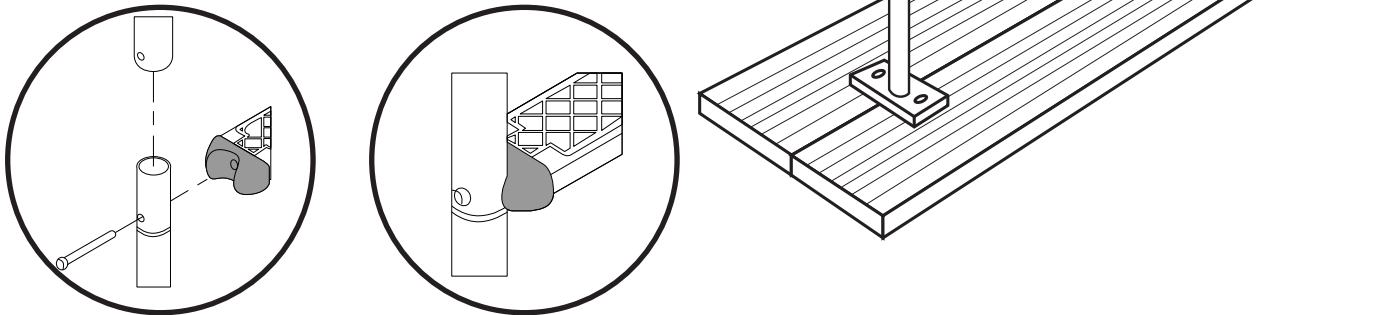
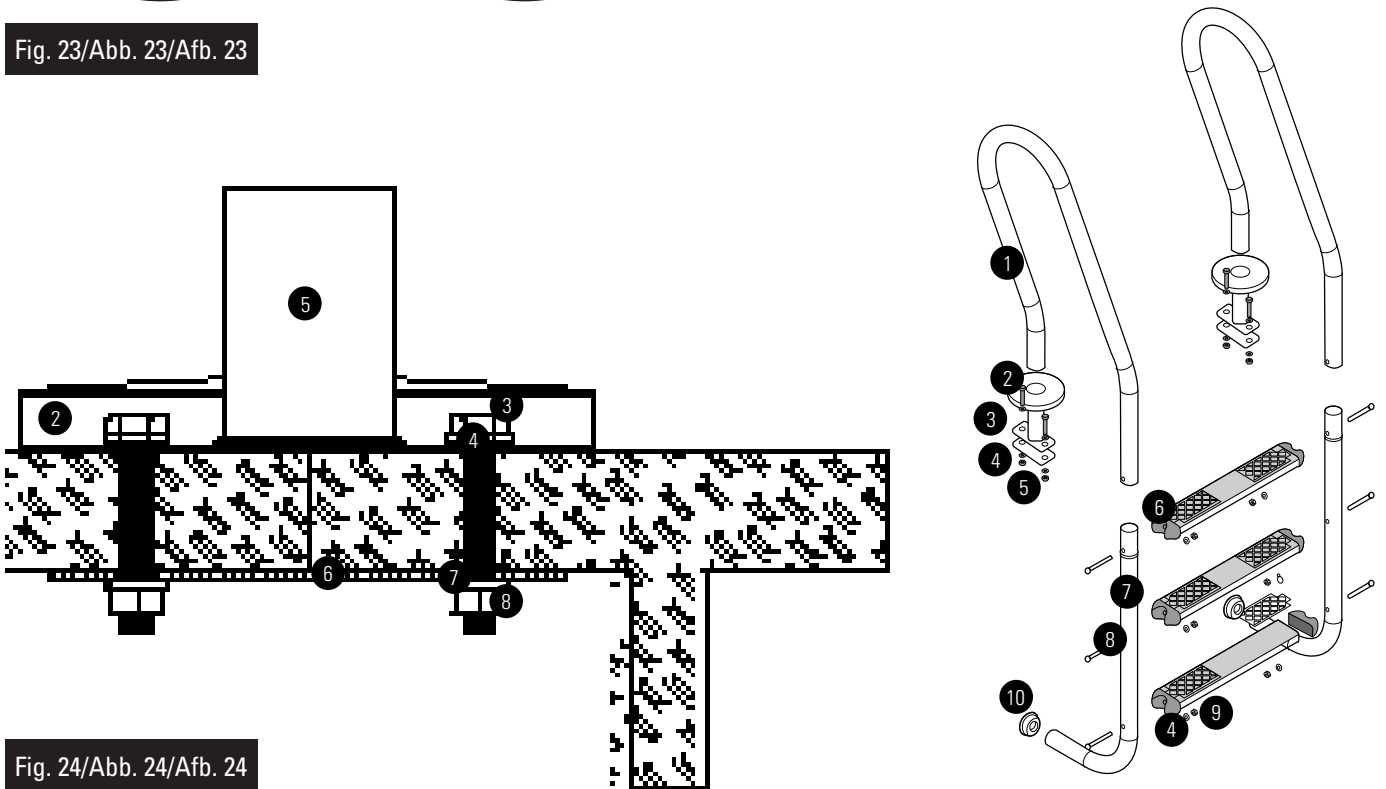

Fig. 23/Abb. 23/Afb. 23
Fig. 24/Abb. 24/Afb. 24
- EN **A.-** Slot in the upper (1) and lower (10) handrails, fasten them with the steps (9) and the steps to the handrails using screws (11), nuts (8) and washers (7). (Fig.23)
B.- Assemble the end pieces (12) of the handrail so that the ladder cannot damage the pool.
D.- Place against flange with the screws (3) and washers (4,7) and nuts (8) and fasten with spanner 12-13. (Fig.24)
E.- Insert the trim (2).